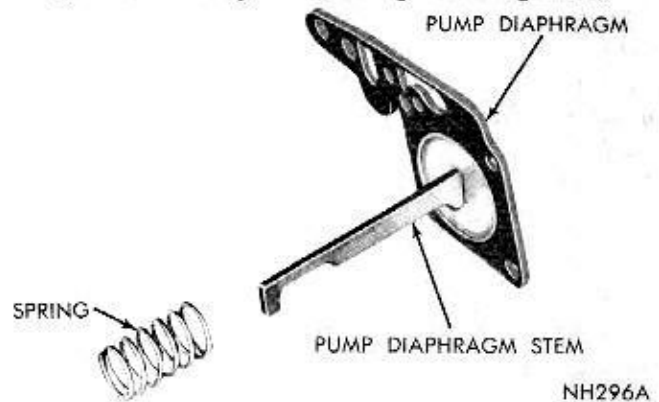

Fig. 8—Pump Diaphragm and Spring
(10) Tilt pump lever on its pivot until hook on pump diaphragm stem can be released. Slide pump diaphragm and spring out of fuel bowl. (Fig. 8).
(3) Test choke valve for binding by rotating lever through extent of its full travel.
(4) Install fast idle and curb idle speed screws and springs in throttle lever.
(5) Engage pump link hook with throttle lever, then install in pump lever and secure with clip. When installing link, be sure link is in center hole of throttle lever.
(6) Slide pump spring (Fig. 8), over pump diaphragm stem. Install assembly in position in fuel bowl and at same time, engage hook on diaphragm stem with recess in pump lever.